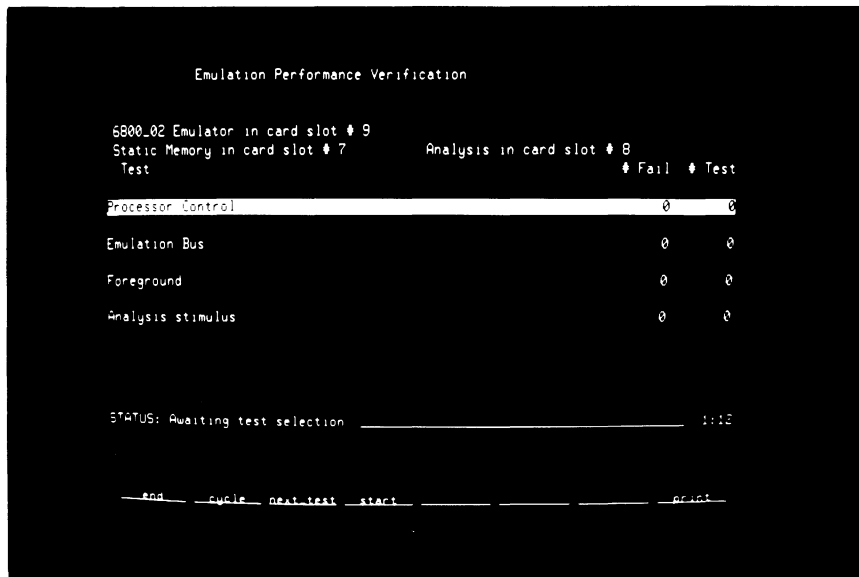

Figure 4-3. Emulator PV Menu
- c. A menu will now appear which lists the tests available to exercise the emulator (figure 4-3). The test displayed in a reverse video field is the test which will be executed if the **start** softkey is pressed. To select a test other than the one which is currently highlighted, press the **next test** softkey. To stop a test or to exit the PV, press the **end** softkey. The **cycle** softkey is used to cycle through the tests executing each test once per pass. When the **cycle** softkey is used, the display maintains a count of the number of times each test is executed (# Test) and the number of failures detected (# Fail).
- d. Press the **cycle** softkey. The reverse video field steps through the tests indicating each test is executing properly. To terminate the tests press the **end** softkey. This returns the display to the Option Test PV Menu shown in figure 4-3.